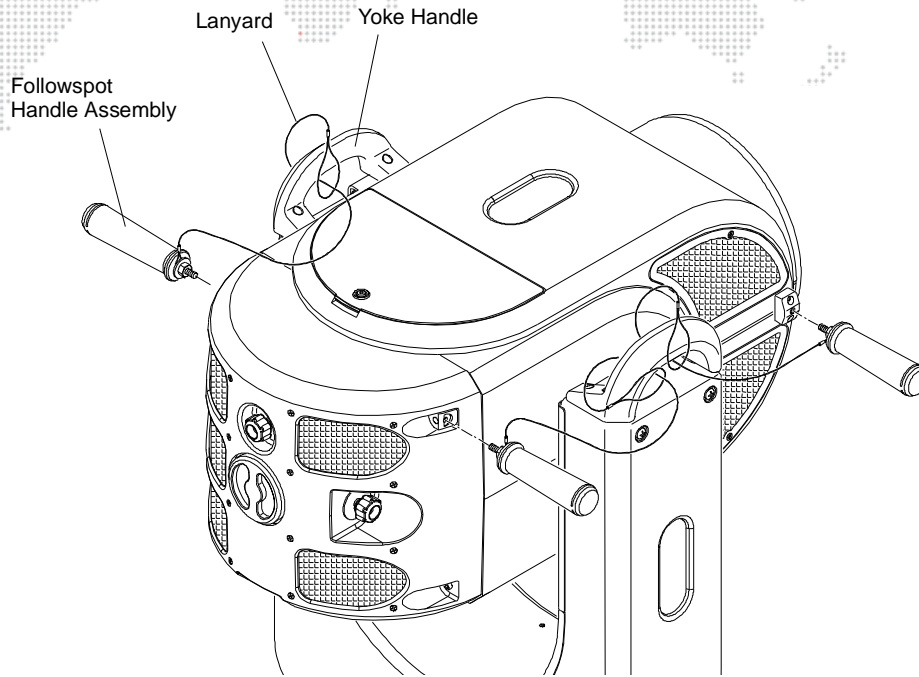

Figure 2-19: Installing Manual Followspot Handles - Step 2
- Step 3. For each Handle Assembly, feed Lanyard through yoke handle, then feed Handle through loop as shown in **Figure 2-19**.